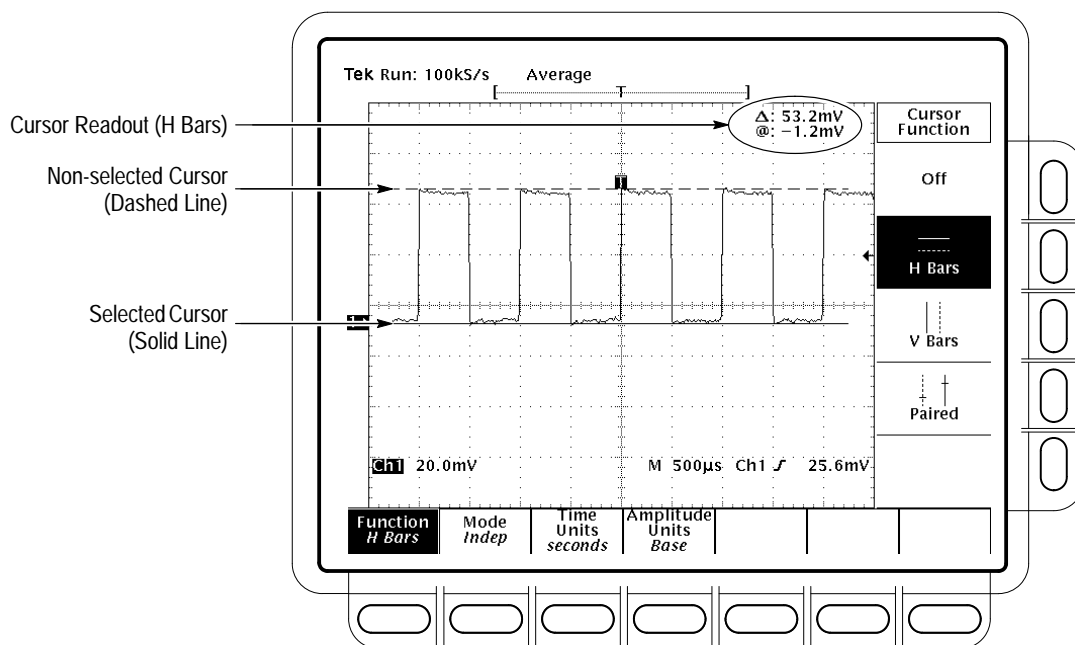

Figure 3–56: H Bars Cursor Menu and Readouts
**Paired.** The value after one  $\Delta$  shows the voltage difference between the two Xs; the other  $\Delta$  shows the time (or frequency) difference between the two long vertical bars. The value after @ shows the voltage at the X of the selected cursor relative to ground. (See Figure 3–57.)